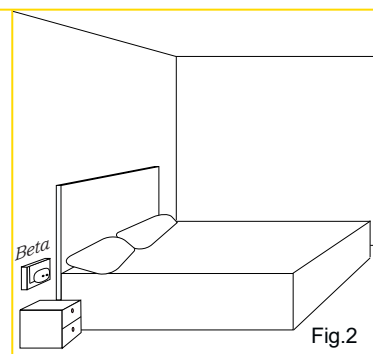

Fig.2
- on a wall, in the breathing zone of the people present as per point 5.2.3.3, a) of the EN50292 standard (Fig. 2).